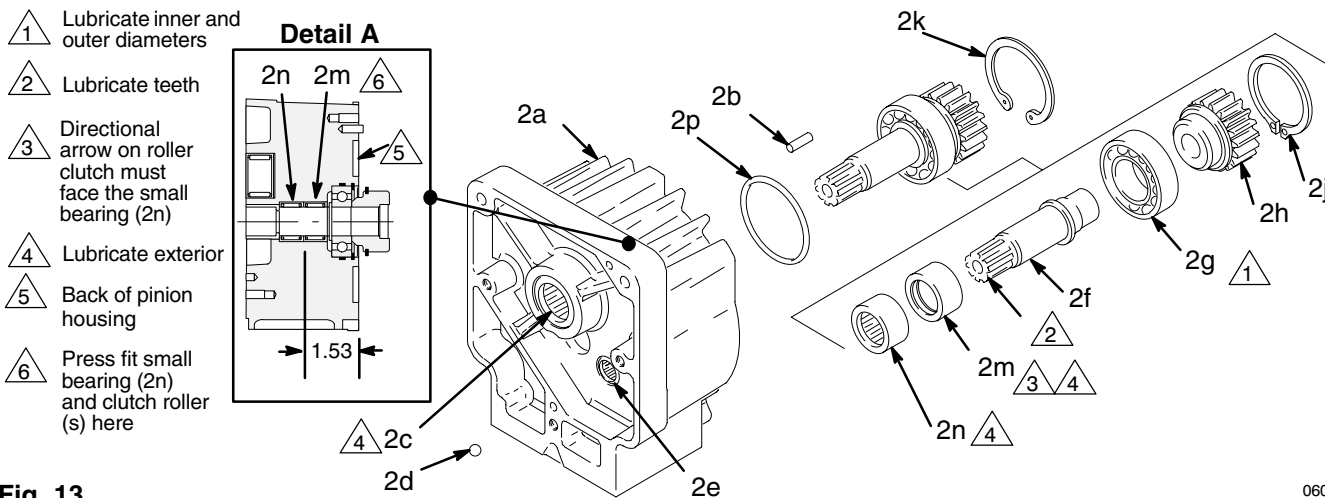

Fig. 13
3. Remove the two bottom screws (59) and lockwashers (16) first, then remove the top three screws (59) and lockwashers (16).
4. Pull the pinion housing (2) away from the clutch housing (1). The armature (51b) will come with it.
5. Pull the armature (51b) off the hub (2h**) of the pinion housing. Also see Fig. 13.
6. If replacing the complete pinion housing assembly (2), brush G-n lubricant (supplied) on the pinion shaft teeth. Then recoat the pinion shaft teeth with bearing grease (supplied). Pack the remaining bearing grease in the bottom part of the pinion housing. Use 0.08 pint of the bearing grease.
7. Install new gasket (64) (supplied).
Repairing the Pinion (Fig. 13)
5. Apply lubricant to the parts as shown in Fig. 13.
- Small bearing (2n) and then the roller clutch (2m), with the directional arrow facing the small bearing, into the rear of the housing (2a). See Detail A in Fig. 13.
Examine the splined hub (2h**, Fig. 13, page 24) for wear. Replace as needed. Follow the Pinion Housing instructions, page 24.